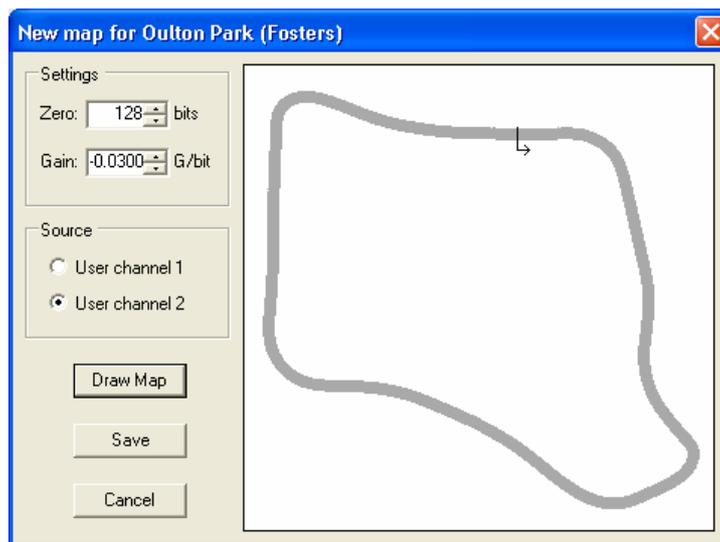

Figure 23 - New Circuit Map Dialog
2. Choose **Map** → **New** from the main menu or activate the context menu for the lap and select the **Create Map** option. The New Circuit Map dialog (Figure 23) appears.